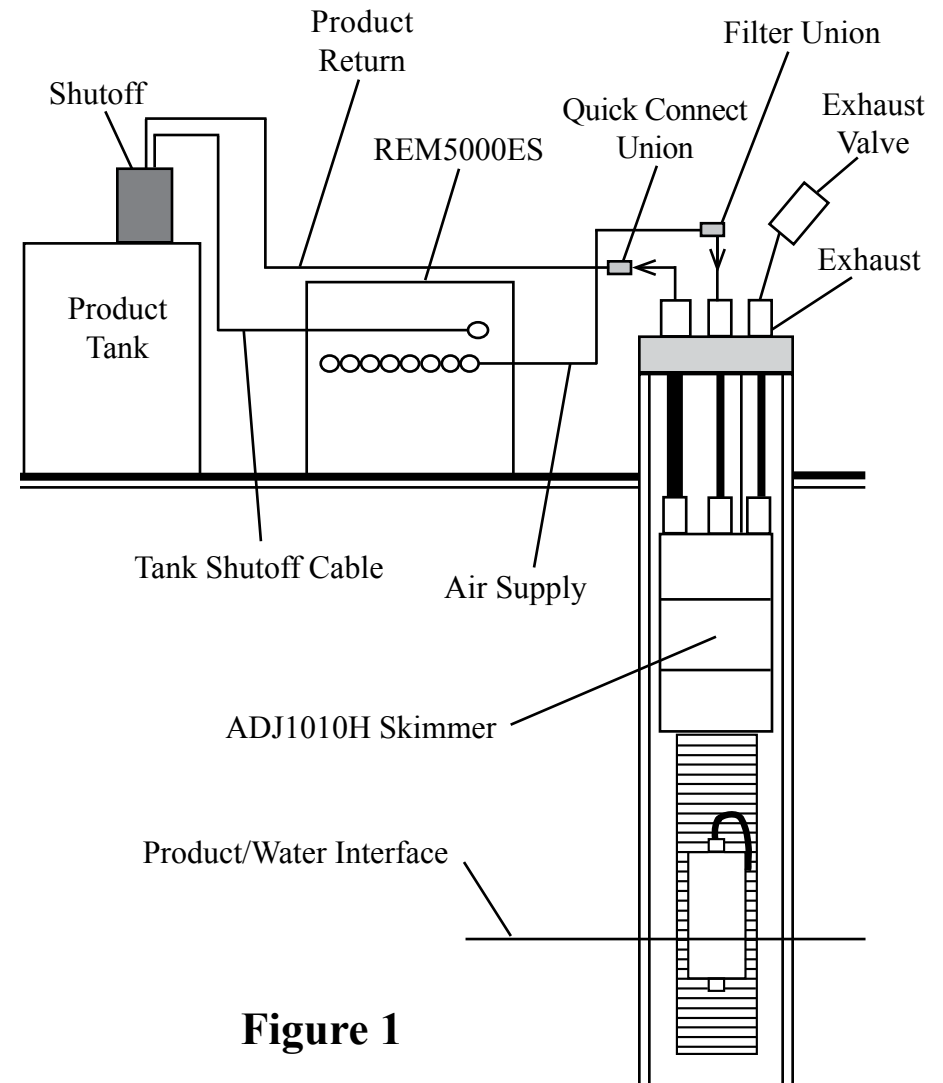
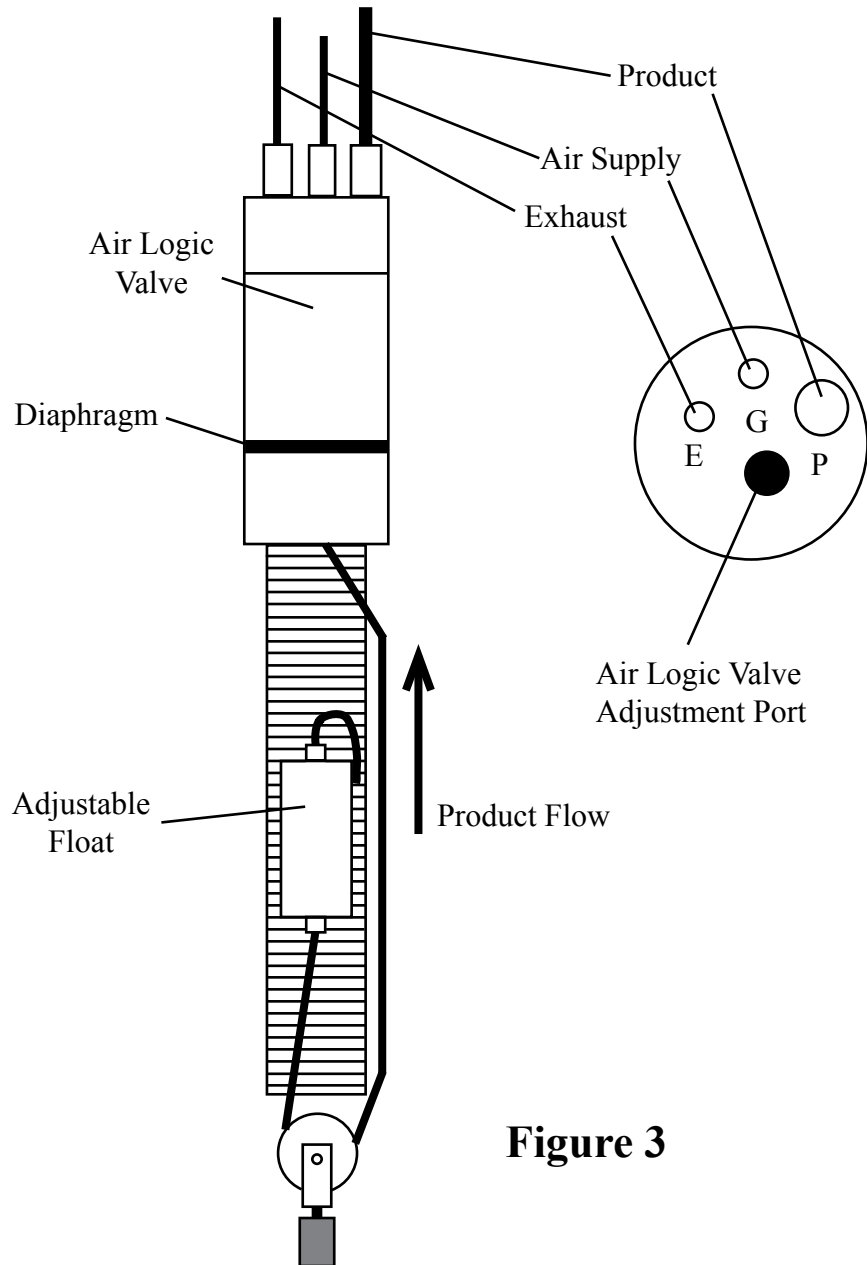

Figure 1
Figure 3
The system (Figure 1) relates to a heavy oil recovery system for wells four inches in diameter and larger. This system includes: an intrinsically safe ADJ1010H pneumatic Smart Skimmer, with an adjustable float (Figure 3), which removes heavy oil up to 200 feet deep; and a solar powered Control Station Model REM5000ES which operates up to 8 skimmers intermittently, records run time, and has a high level tank shutoff assembly.
STEP 2. Install holding tank shutoff assembly into holding tank (a 2" standard pipe inlet will be required in the holding tank). The level of product in the holding tank can be set by raising or lowering the liquid level float switch rod. Plug the high level shutoff switch cable connector into the left end of the controller (Figure 1).
STEP 6. Position the skimmer and well cap on the ground near the well. **NOTE:** If the skimmer is over 60 feet deep, use a vented design skimmer. Cut a length of 3/8" OD air supply tubing to cover the distance from the top of the well down to water/product interface, plus 5 feet. Slide enough tubing through the well cap and attach the end of the tubing to the top of the skimmer tube fitting labeled "G" (Figure 3). If the product thickness is greater than 1 foot, position the center of the skimmer screen 1 foot below top of product. If the product thickness is less than 1 foot, position the center of the skimmer screen at the water/product interface.
STEP 7. Cut a length of 1/2" OD product tubing same length as the air supply line. Install 1/2" OD product tubing through the well cap tube fitting labeled "P" (Figure 3). Slide enough tubing through the well cap and attach the end of the tubing to the top of the skimmer tube fitting labeled "P". **CAUTION:** Do not kink the tubing.